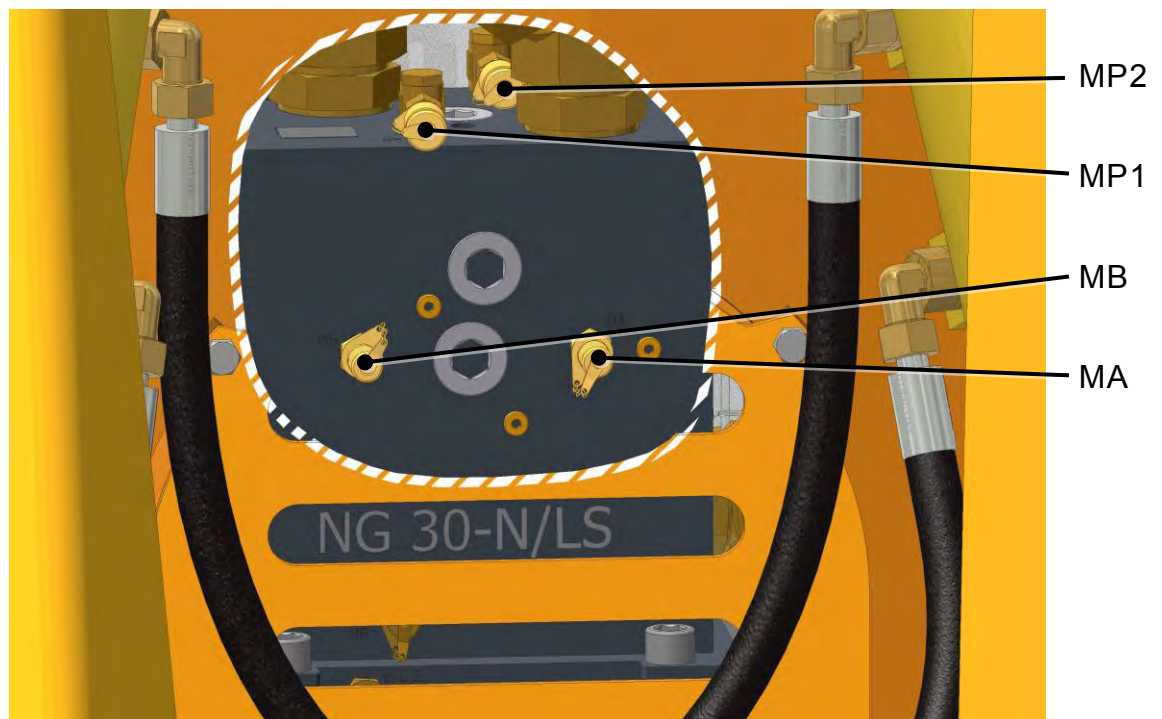

Figure 4.3.1 Measuring points on the control block
- ▶ Depressurise the hydraulic system via the pressure gauge connectors **MA** and **MB** and, additionally, via **MP1** and **MP2** (see Fig. 4.3.1). For this purpose, put one end of a pressure gauge hose into a container to receive the outflowing hydraulic fluid. (For splash protection, use, for example, a 10-litre bucket). Connect the other end to the pressure gauge hose connectors until the pressure is released.